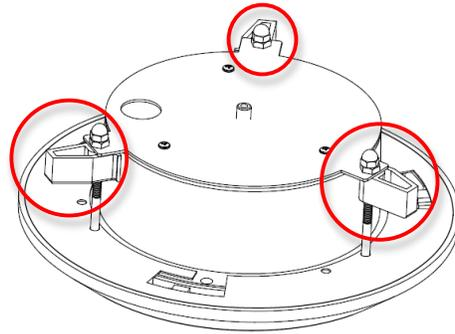

Figure 7: Attach the 3 levers
4. Insert each lever screw into the Flange Plate, support arm, and Top Plate. Then, screw the nuts and caps as shown in Figure 7.